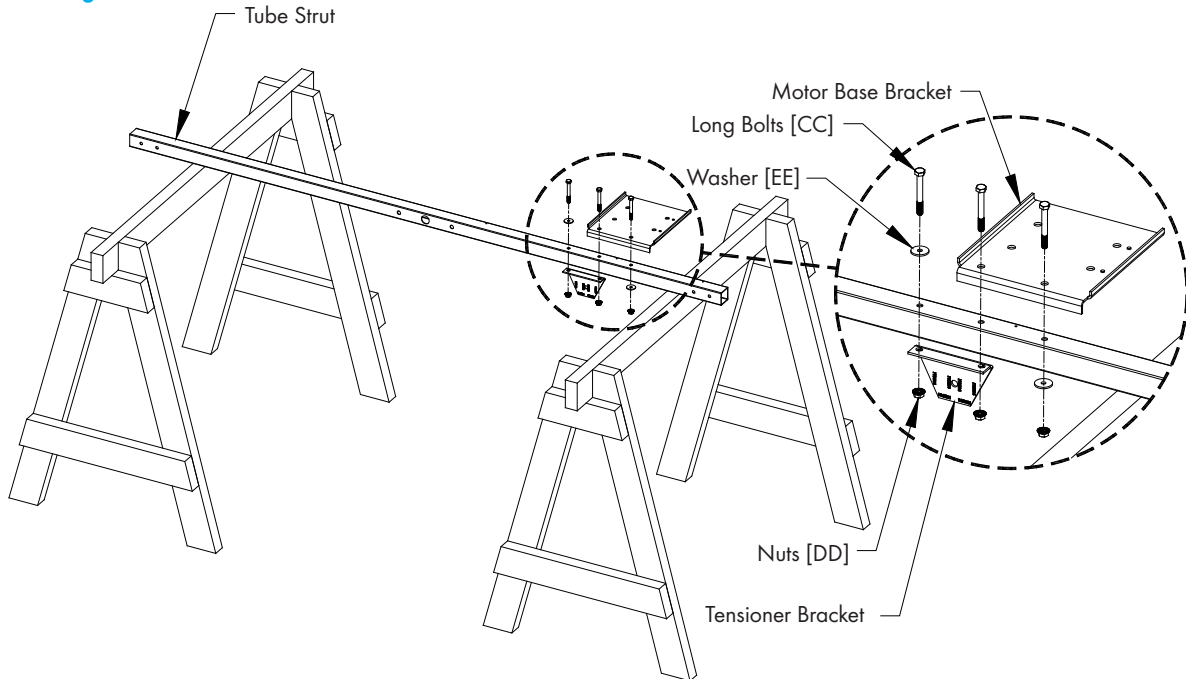

Figure 2A
Place tube strut on saw horses or a flat work surface. The large center hole should be pointing horizontally. Attach the Motor Base Bracket and the Belt Tensioner Bracket to the Tube Strut using (3) Long Bolts [CC], (2) Washers [EE] and (3) Nuts [DD]. The Motor Bracket and the Tensioner Bracket share the middle hole. See Figure 2A.